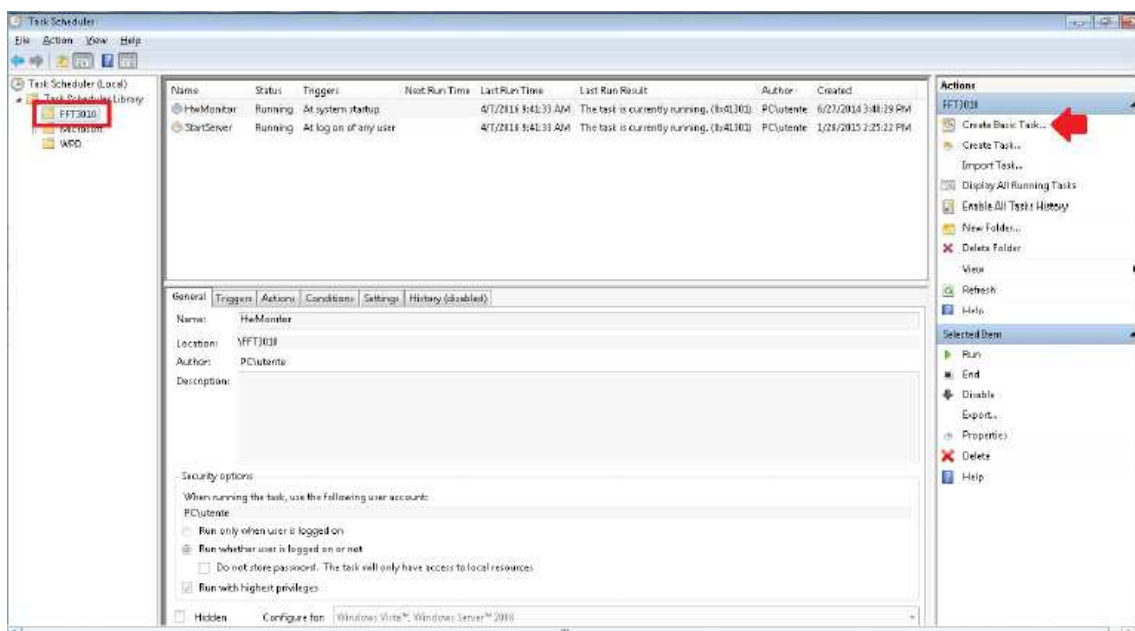

Fig. C.35: Task Scheduler window
STEP 2 – In *Task Scheduler* window please create a new task to start client software selecting *FFT3010* (*FFT 3030*) folder in the left panel and *Create Basic Task...* in the right panel (Fig. C.35).